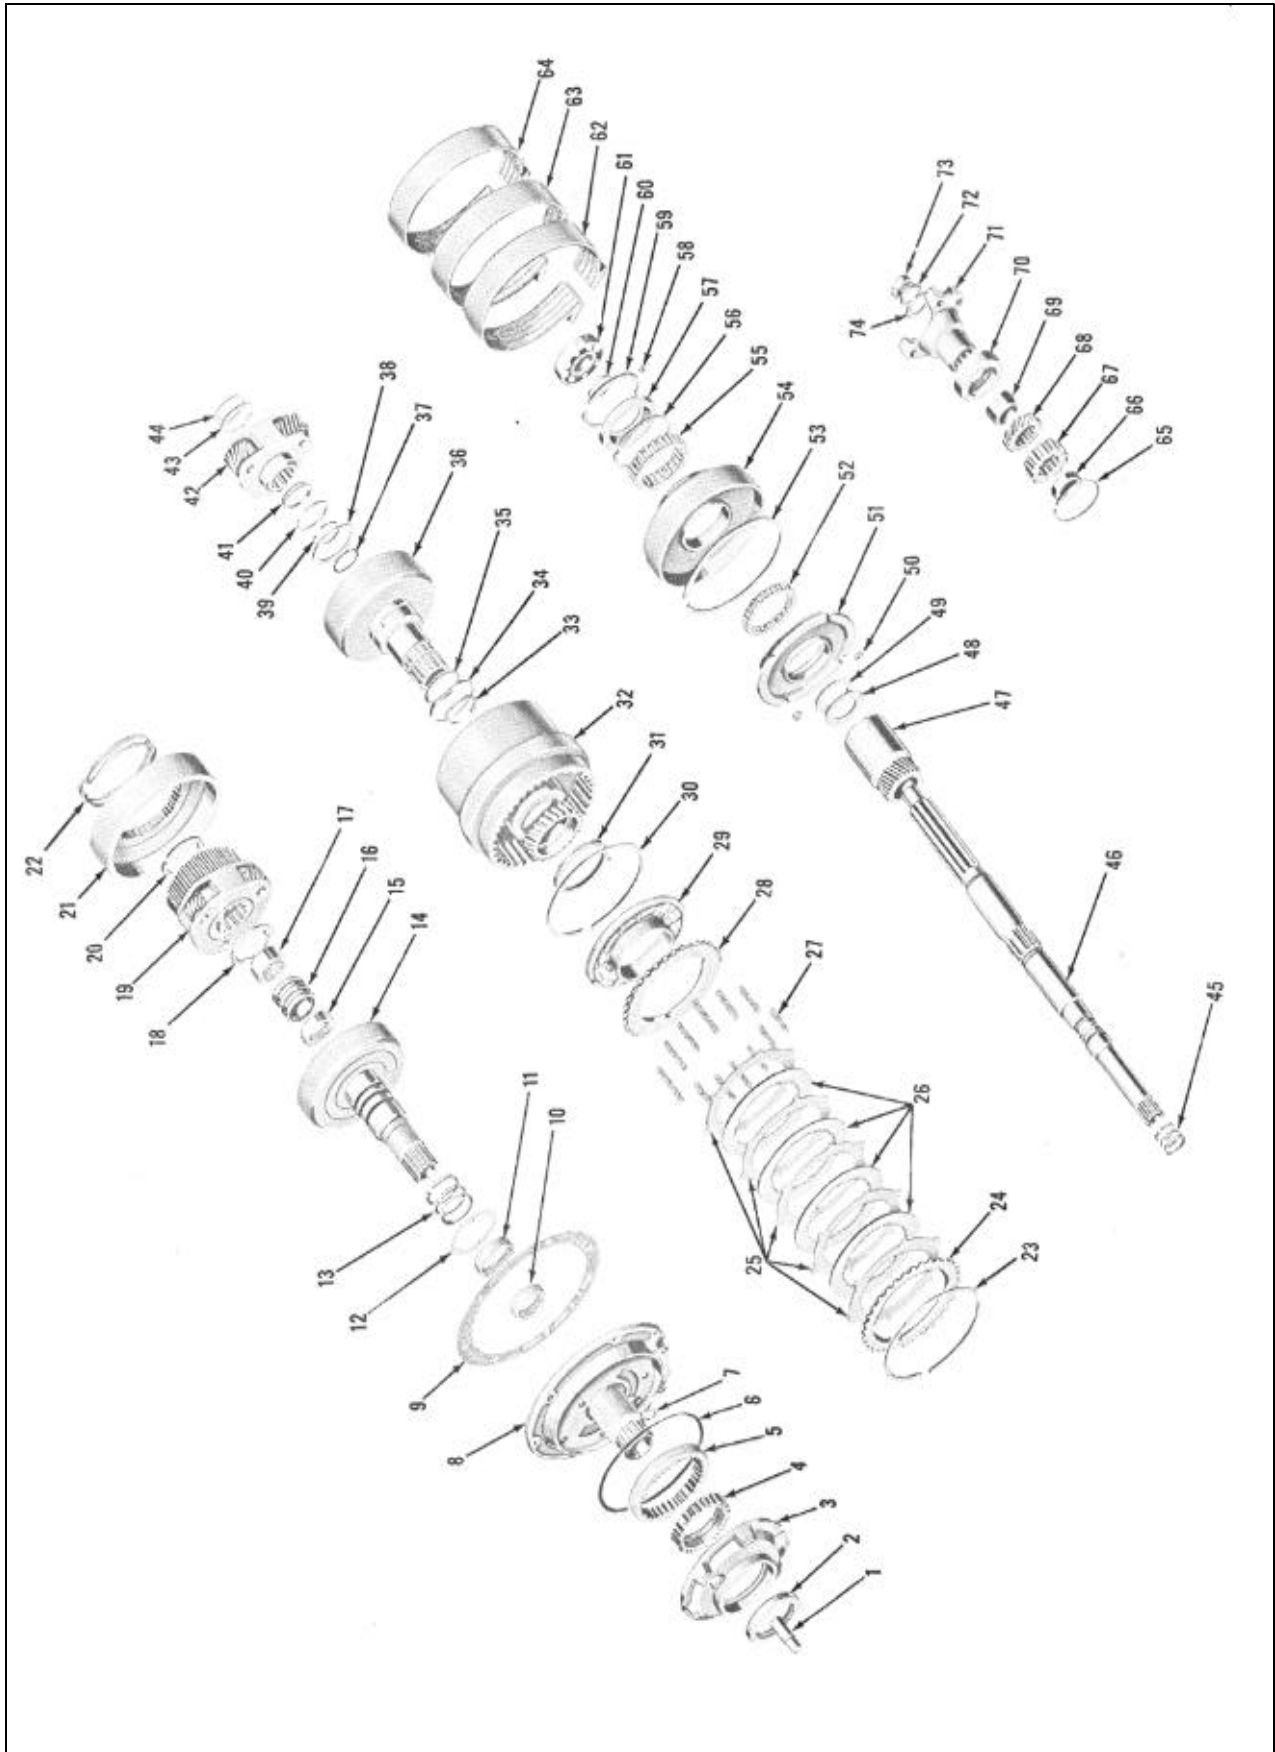

FIGURE 118 - EXPLODED VIEW - FRONT PUMP & COLLECTOR RING,
**NOTE:** If the reverse free wheel (52), Figure 118, is worn or damaged, the low drum plate (51) and the rear sun gear (47)
1. Install a new piston inner seal (31) in the groove of the sun gear, Figure 118.
3. Install a new piston oil seal ring (30), Figure 118, in the groove of the clutch piston (29) using Snap Ring Pliers KMO-630.
6. Install the multiple disc clutch retractor spring seat (28), Figure 118, into the drum (32) (spring recesses up)
7. Dip the clutch discs (26) and clutch plates (25) in Automatic Transmission Fluid and install them into the drum; starting with a steel plate (25) place the plates and friction discs alternately in the drum. (Five steel plates and four friction discs.)
**NOTE: The lugs on the steel discs (25) are not evenly spaced, therefore make sure that the lugs of the steel plates are in the same grooves of the low brake drum (32) as the master lugs of the retractor spring plate (28).**
12. Apply Type "A" Automatic Transmission Fluid to the rear ring gear inner (37), Figure 118, and outer (35) "O" ring seals and install the seals in their respective grooves.
**NOTE :** DO NOT stretch the outer seal (35) more than is necessary to slip the seal over the ring gear shaft.